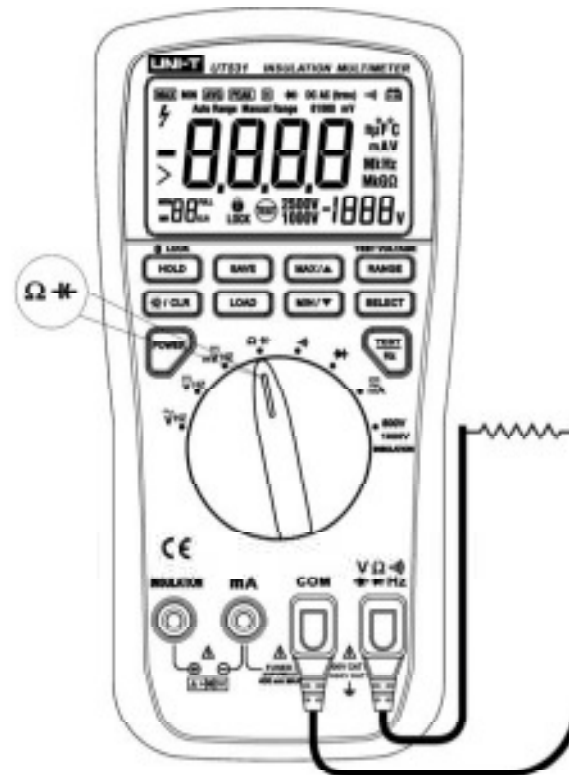

Figure 8.Measuring Resistance
- *Measuring Resistance* (see figure 8)